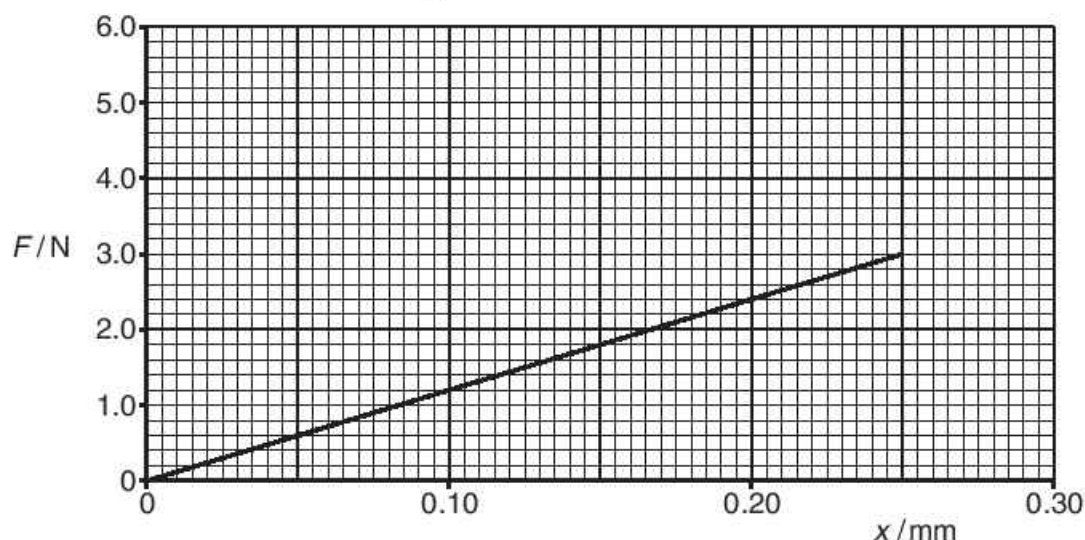

Fig. 5.1
- (b) A load F is suspended from a fixed point by a steel wire. The variation with extension x of F for the wire is shown in Fig. 5.1.
- (i) State two quantities, other than the gradient of the graph in Fig. 5.1, that are required in order to determine the Young modulus of steel.
- (iii) A load of 3.0 N is applied to the wire. Use Fig. 5.1 to calculate the energy stored in the wire.
On Fig. 5.1, sketch the variation with x of F for the copper wire for extensions up to 0.25 mm. The copper wire is not extended beyond its limit of proportionality.